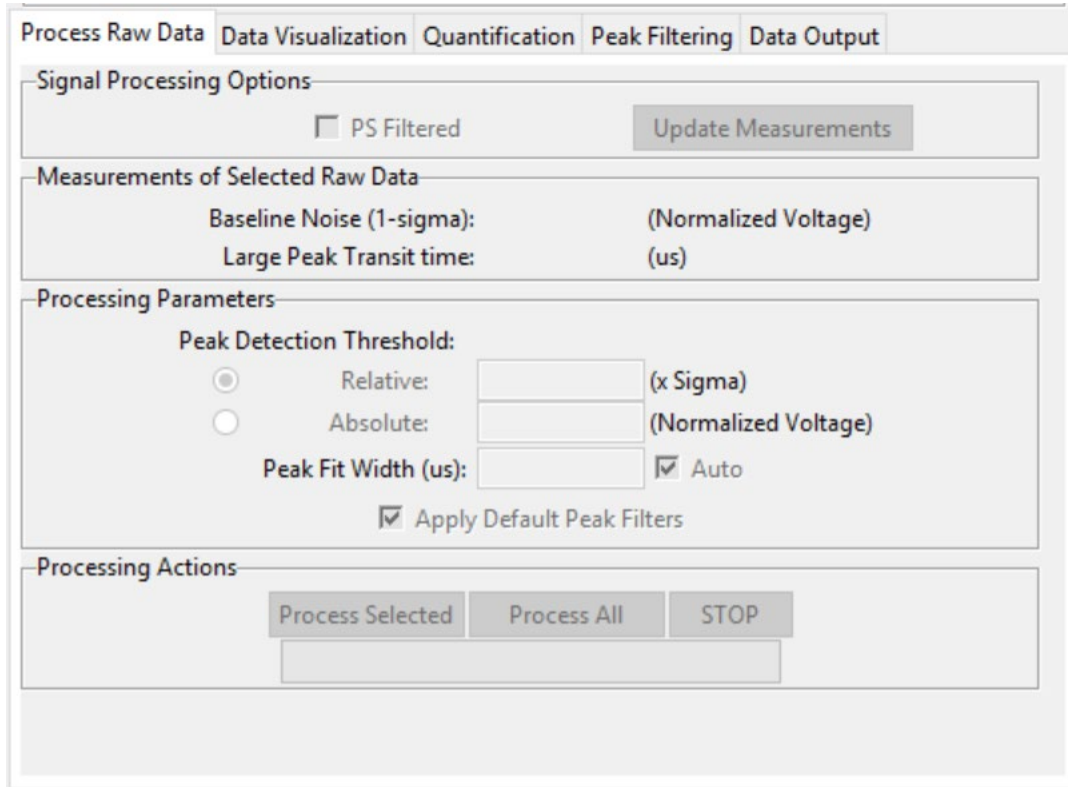

Figure 5. Data processing options in the nCS1 data analysis software.
- 6.2.1.2 Once the files to be processed are added to the queue, the processing settings can be chosen and adjusted. Figure 5 contains a screenshot of the processing settings portion of the software.